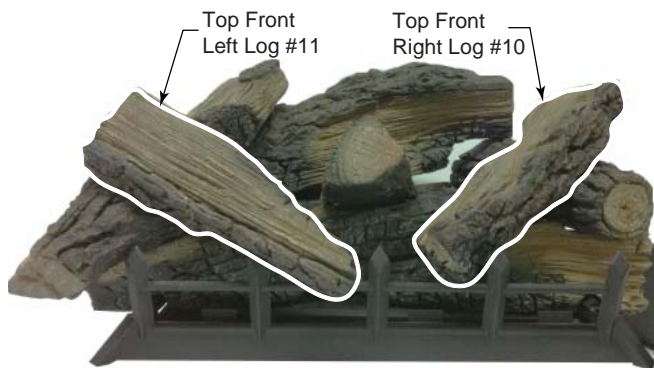

Figure 49
10. Place top front right log (#10) onto mid right log (#6) by placing notch on bottom of log onto locating block on log #6. Rest bottom end of log onto grate bar. *Figure 49*
11. Place top front left log (#11) onto mid left log (#8) by placing notch on bottom of log onto locating block on log #8. Rest bottom end of log onto grate bar. *Figure 49*